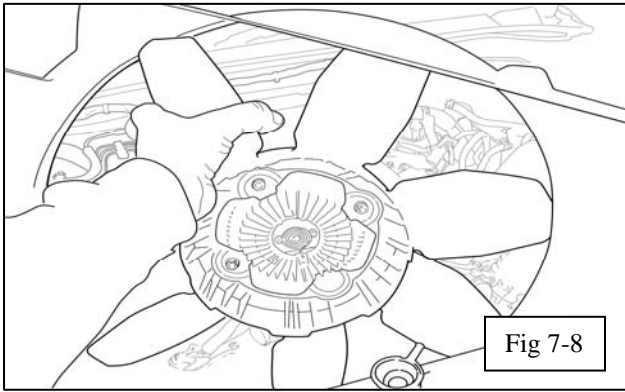

Fig 7-8
- (h) Carefully remove the fan and shroud together so you do not damage the radiator (Fig 7-8).